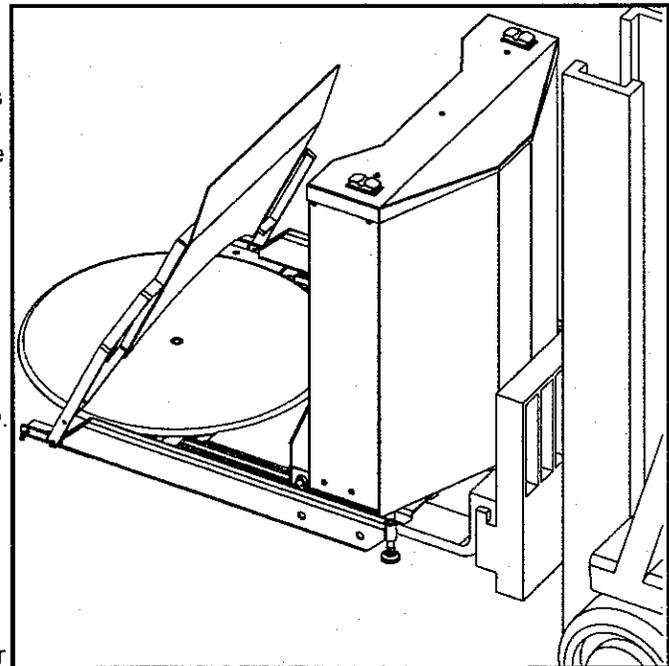

Figure 9 – Handling the EZ Off Lifter
7. Tilt the fork mast to the rear to level the lifter and slowly lift the unit until the base structure is completely clear of the pallet, as detailed in Figure 9. Next, remove the pallet and place it off to the side. Position the EZ Off Lifter in the desired location.